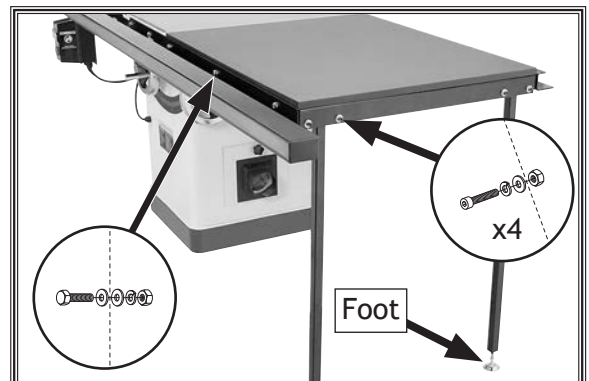

Figure 25. Model W1820 extension table installed.
1. Remove the six M6-1 x 16 hex bolts, (12) 6mm flat washers, six 6mm lock washers, and six M6-1 hex nuts from the extension table.
4. Use the four M8-1.25 x 20 cap screws, 8mm lock washers, 8mm flat washers, and M8-1.25 hex nuts to secure the legs to the end of the extension table, as shown in **Figure 25**.